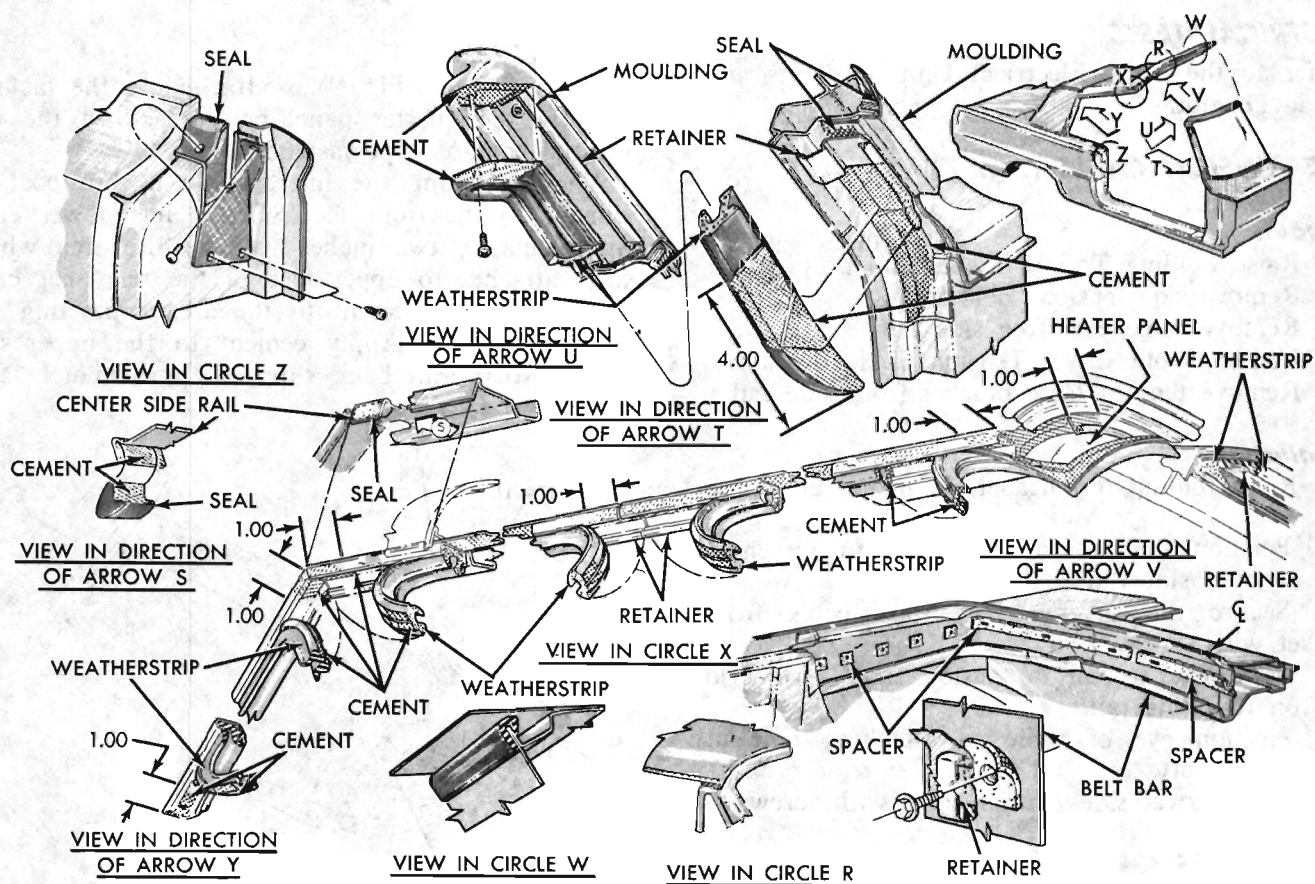

Fig. 10 Roof Rail Weatherstrip
If weatherstrip is not sealing properly, the retainer can be adjusted. The retainer has elongated attaching screw holes which permit in and out adjustment (Fig. 10).
(7) Prop top off of windshield header and remove moulding from top header. The moulding attaching screws are located under the weatherstrip.
(8) Raise top to the 1/2 open position and remove rear roof rail weatherstrip (Fig. 10). Mark location of retainer screws on roof rail to aid in reassembling, and remove retainer.